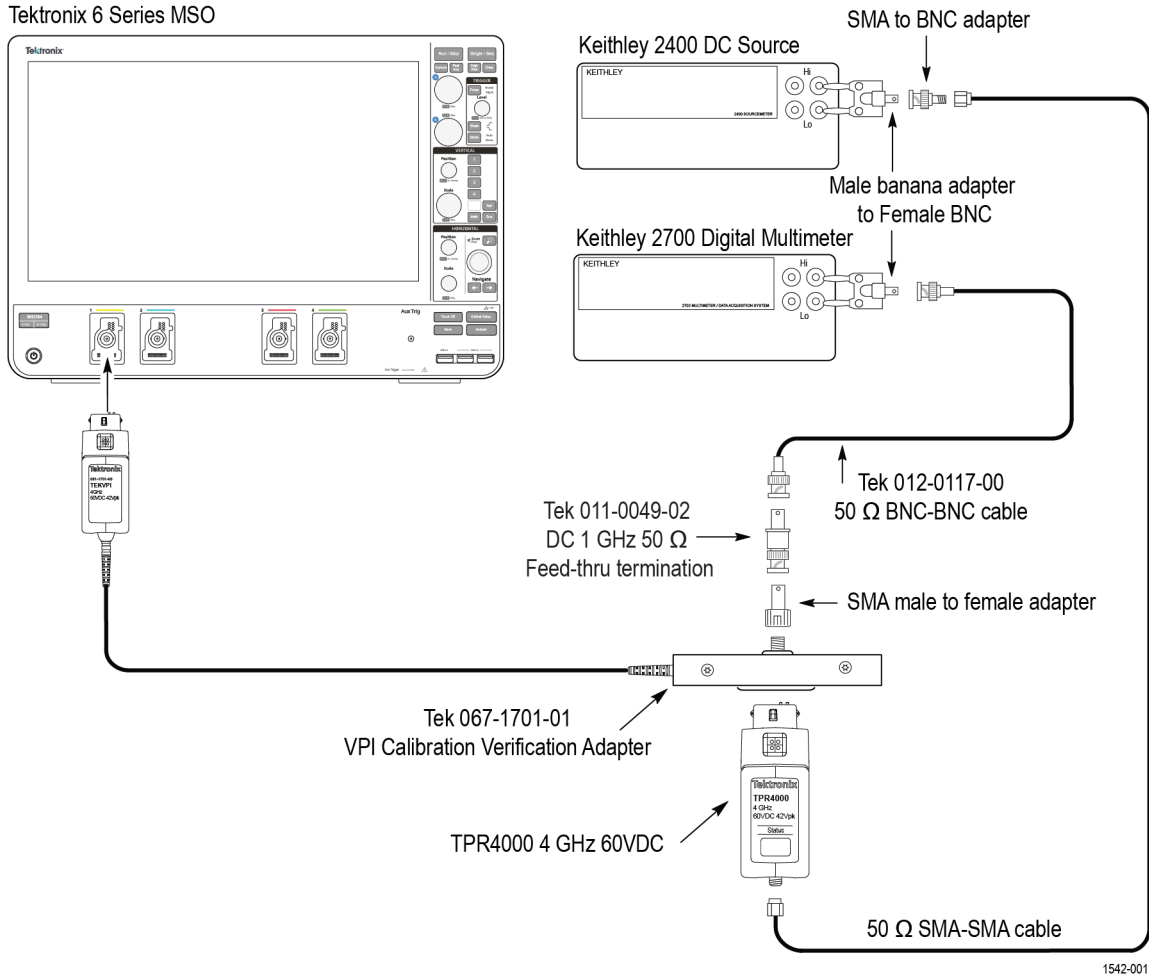

Figure 6: DC setup connection diagram
1. Connect the test equipment as shown in the DC setup diagram. (See Figure 6.)